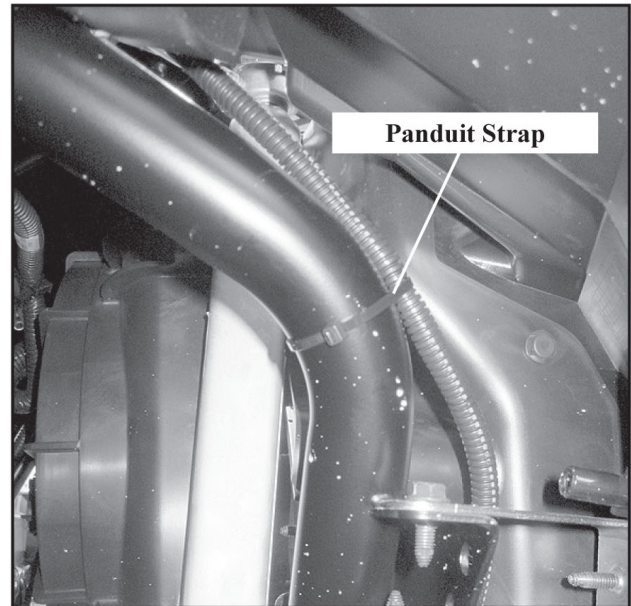

Figure 6
- g. Use one of the panduit straps (#4) provided in this kit to secure the plow control harness to the main frame near the front bend as shown in *figure 6*.